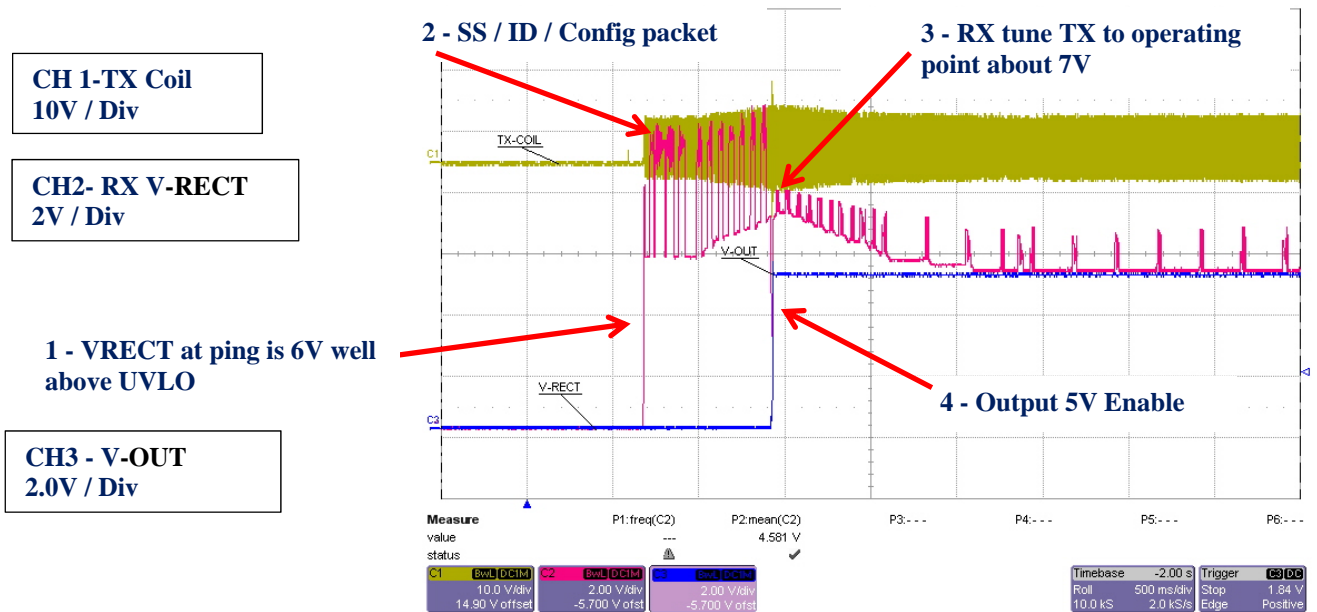

Figure 6 Start Up into 200mA load, Horizontal Axis 500ms/div
- Figure 6 shows a typical start up behavior for the TX and RX as the RX is placed on a TX in standby. The TX can be seen transitioning from standby to power transfer.